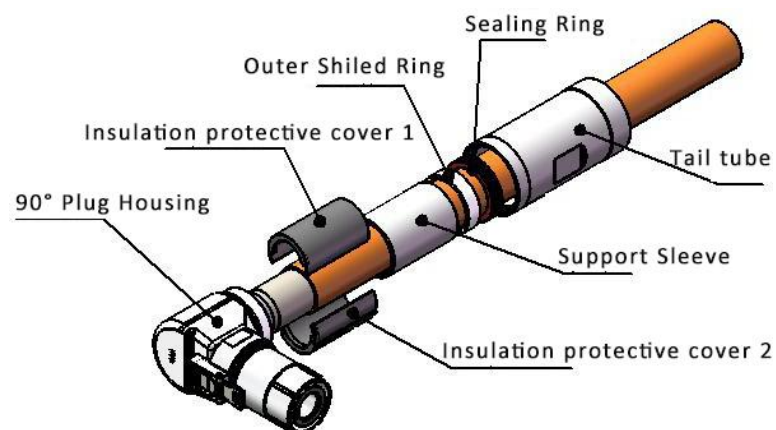

Fig. 13
4.2.1. Remove the connector, place the parts in the product on the cable in turn according to Fig.13, and then place the double-wall heat-shrinkable tube ($30 \pm 2\text{mm}$ long).